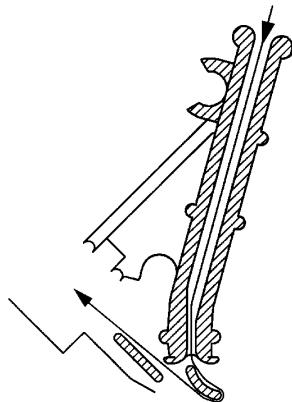
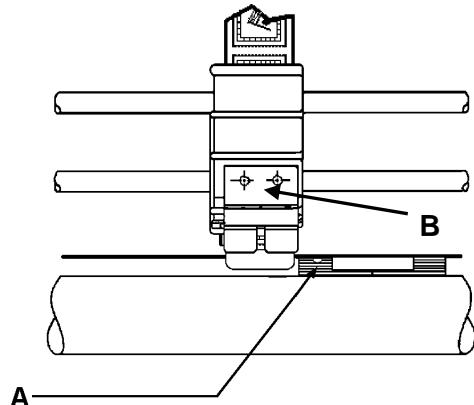

Figure 5
Figure 8
5. Thread labels into the L-250/350 following the **LABEL THREADING DIAGRAM** [Figure 5].
9. Make sure the label peels off straight and is parallel with the peeling edge [Figure 3C] and [Figure 5].
9. Thread the stamps into the L-350 following the LABEL THREADING DIAGRAM [Figure 5].
2. Thread labels/tabs/stamps into the labeler following the diagram [Figure 5 or Figure 8].
12. The counter (H. Fig. 8) will advance one count with every label placed on an envelope. It will only count when **LABEL ON** switch is activated. Maximum count is 99,999. To reset the counter to 0, depress the **COUNTER RESET** switch (1, Fig. 8).
12. Complete the tab routing through the sensor assembly, around the peel bar, through the pressure rollers, and into the take-up roller split shaft see Figure 8 in this manual.